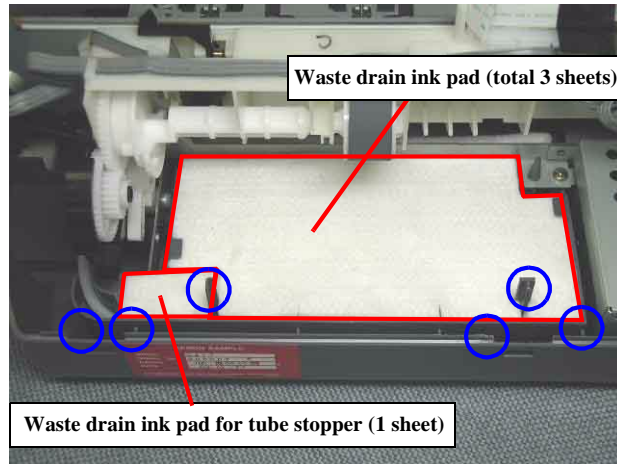

Figure 4-44. Waste drain ink pad setting position
- CAUTION**  □ When disassembling/assembling the Waste drain ink pad, be careful not to hurt your hand with the protrusion of the Lower housing. (Refer to Figure 4-44: Blue circle)